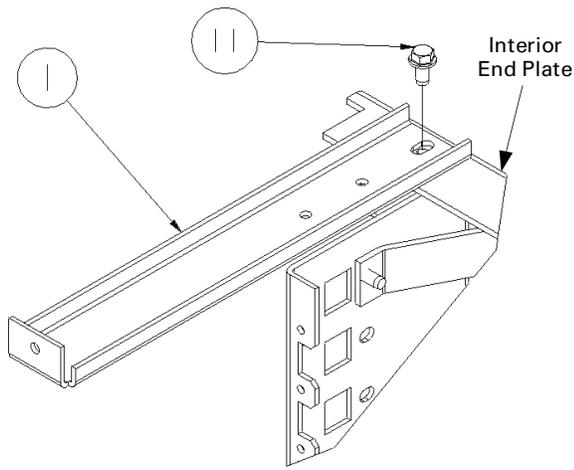
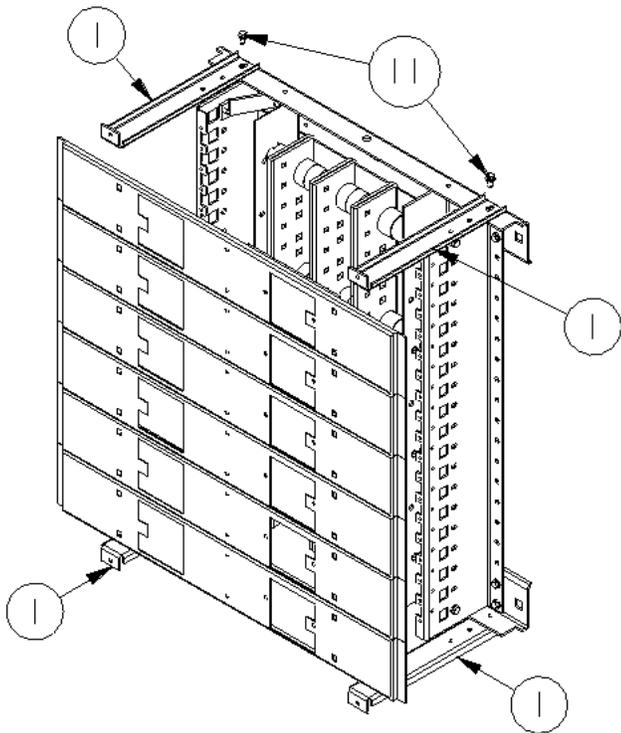

Figure 3. Attaching a dead front mounting post to the interior end plate.
Figure 4. Dead front mounting posts mounted at the four corners of the interior.
1. Install the four dead-front mounting posts [1] before the panel is mounted in the enclosure. Fasten one post to either end of the top and bottom interior end plates at the outermost holes, using the 1/4-20 x 1/2-in. hex-head screws [11] provided, as illustrated in Figure 3 and Figure 4. Tighten the screws to 50–60 in.-lbs.